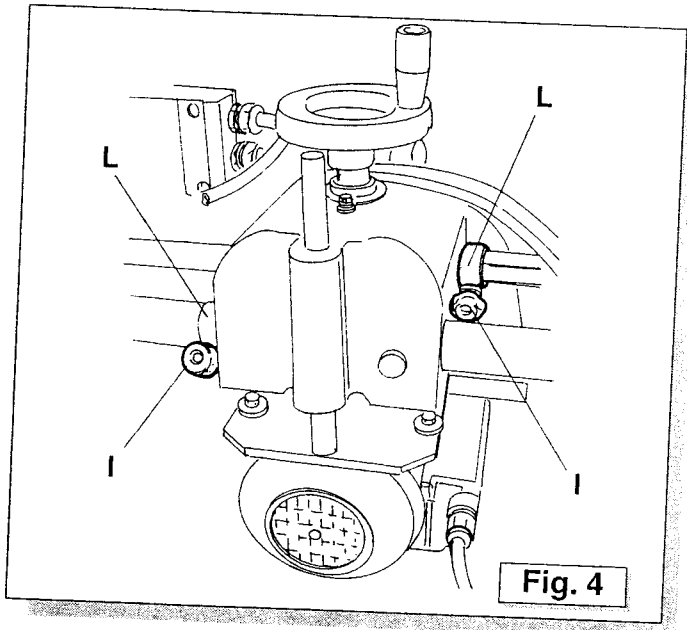

Fig. 4
- Before lifting the machine, always be sure that head is blocked in the center of the Guide Bars using the Limit Rings, I (Ref. 4.2, Fig. 4).
- Unblock the head by loosening the knobs I (Fig. 4) and sliding the two limit rings L (Fig. 4) to the end of the Guide bars.